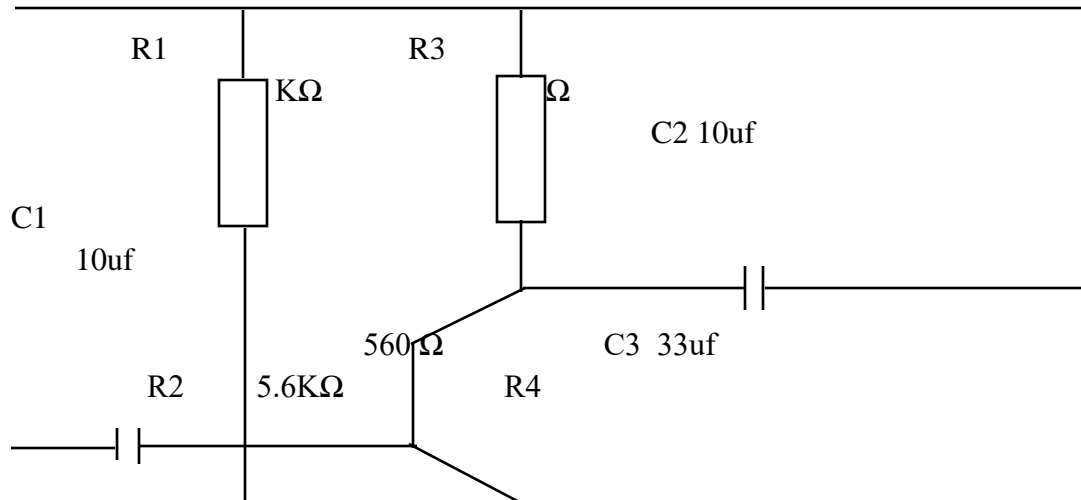

Figure 1: Single stage amplifier
- iv. The trainer to construct a single stage amplifier as shown in figure 1 below